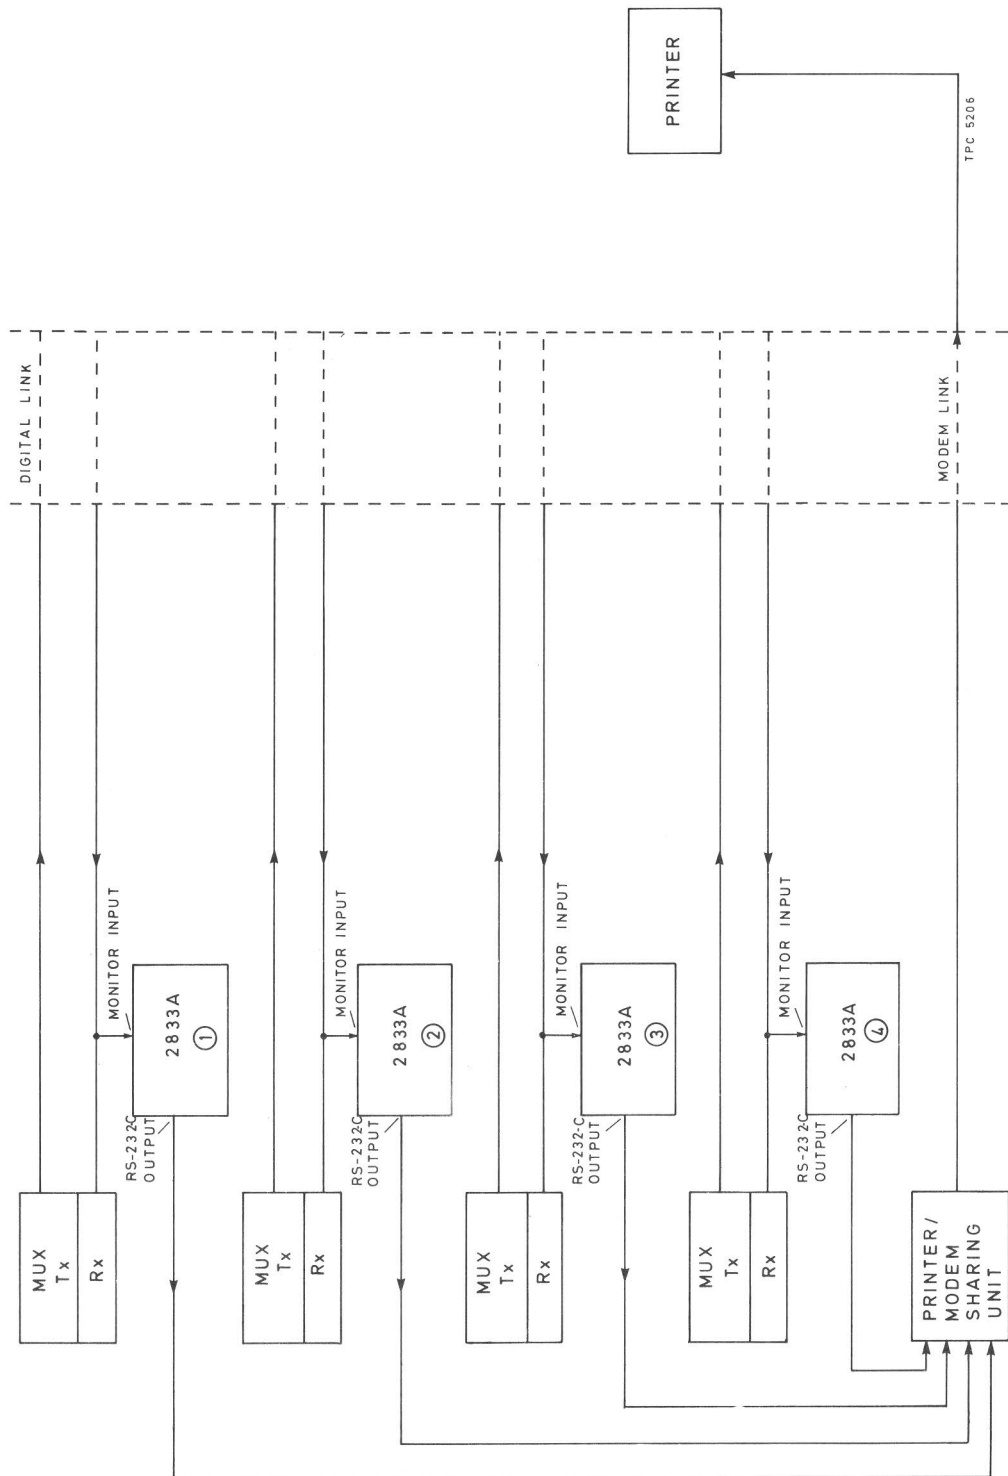

Fig. 12 Four 2833A's using one printer
27. Four 2833A's can be connected to a single printer using a printer/modem sharing unit. In Fig. 12 four 2833A's are used to monitor four Multiplex receivers at the same location. Each 2833A output is connected to a printer/modem sharing unit which is connected to a remote printer via a single modem link.